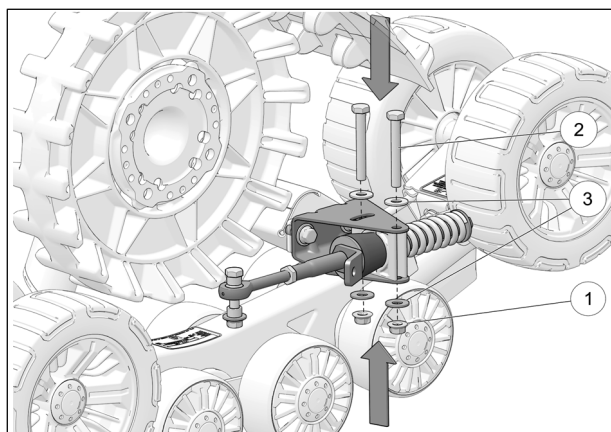

Fig. 16
7. Reinstall bolts (2), washers (3) and nuts (1) to secure anti-rotation arm to front Track system. See Fig. 16